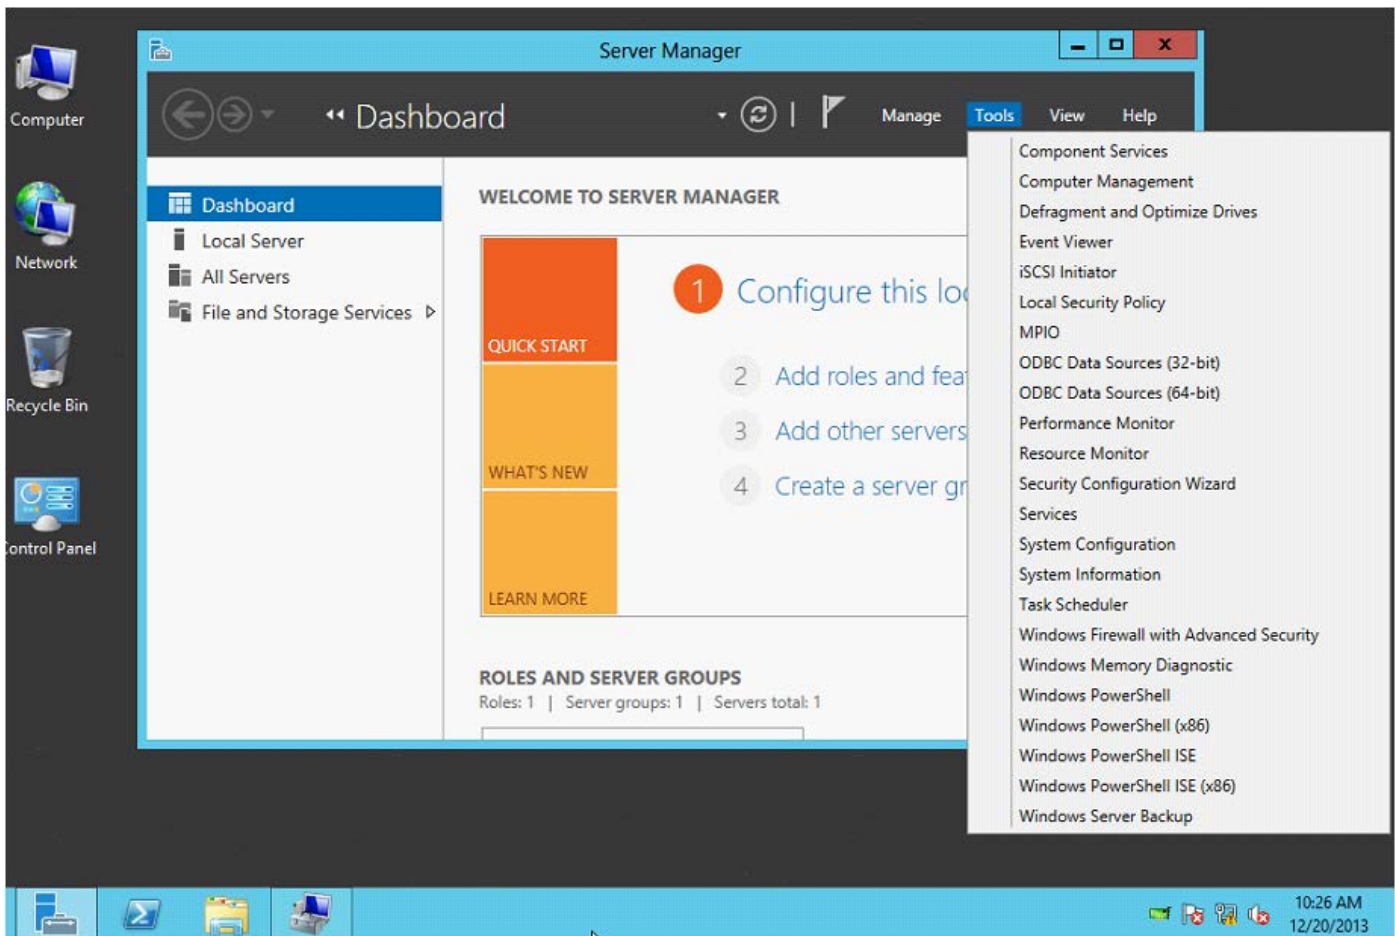

Figure 54 Server Manager Tools Menu
1. In order to access Disk Management in Windows 2012, the procedure as can be seen in Figure 54 is to first click on the Server Management icon in the lower left hand corner of the screen.